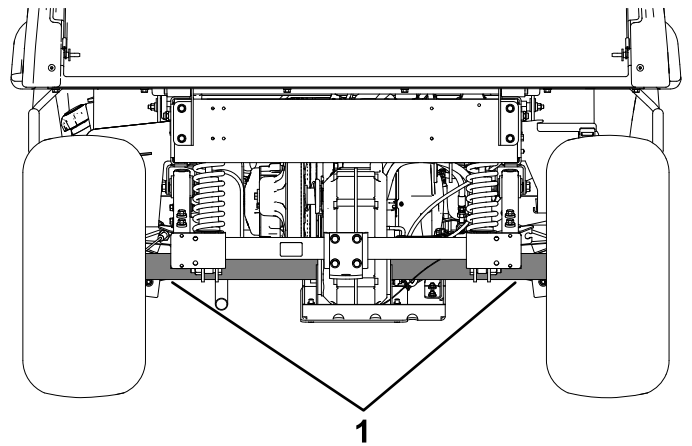

Figure 27
- The lifting point at the rear of the machine is located under the axle tubes (Figure 27).